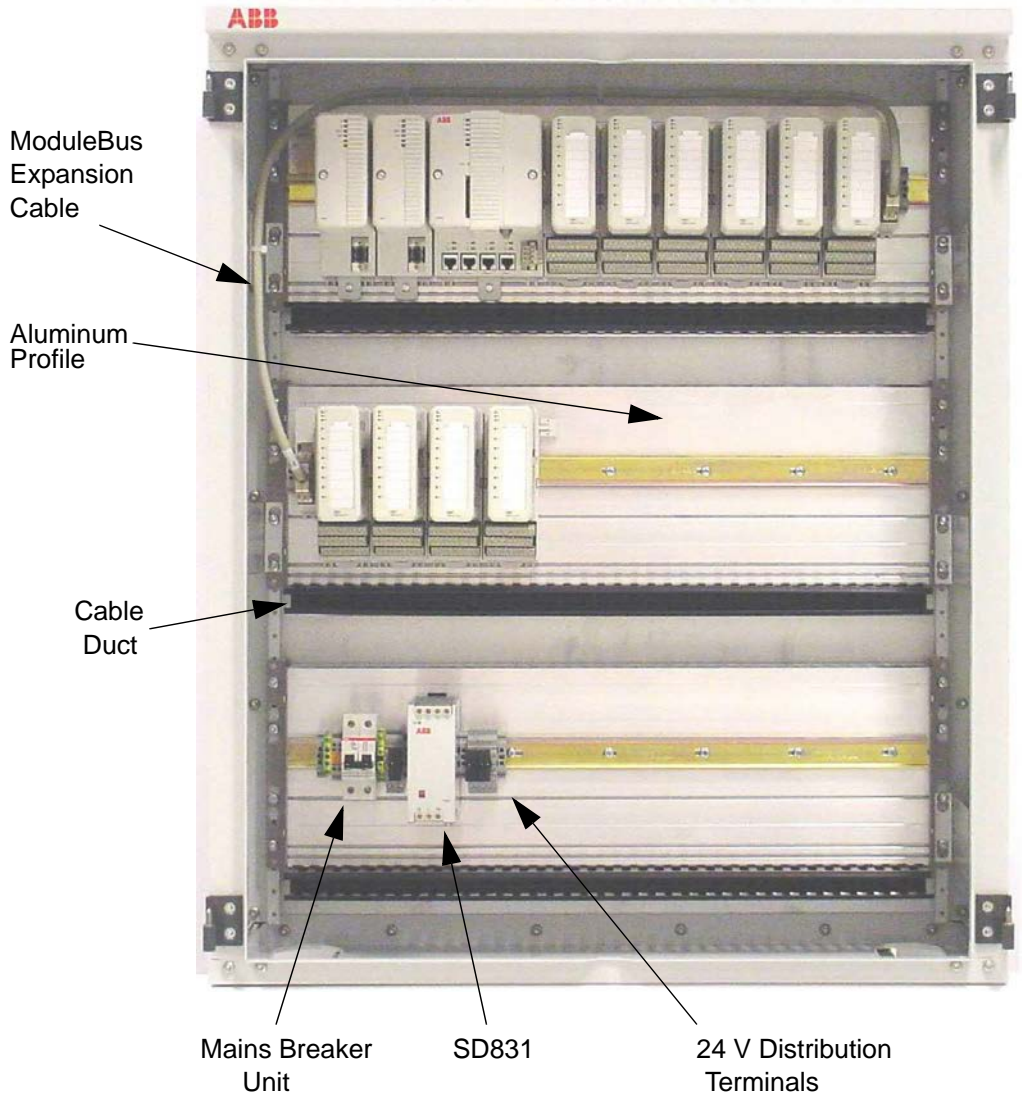

Figure 2.40: Wall Cabinet – Single Power Supply Arrangement
- Figure 2.40 on page 141: Wall Cabinet – Single Power Supply Arrangement